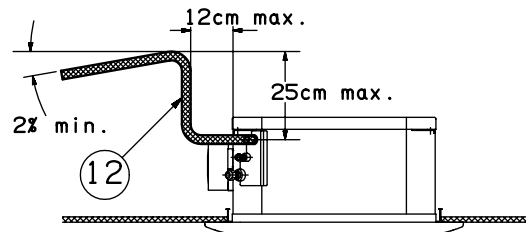

Fig. 3-5
- If it is necessary to increase the height of the drain pipe somewhat, the portion directly after the connection port can be raised a maximum of 25 cm. Do not raise it any higher than 25 cm ⑫, as this could result in water leaks. (fig. 3-5)